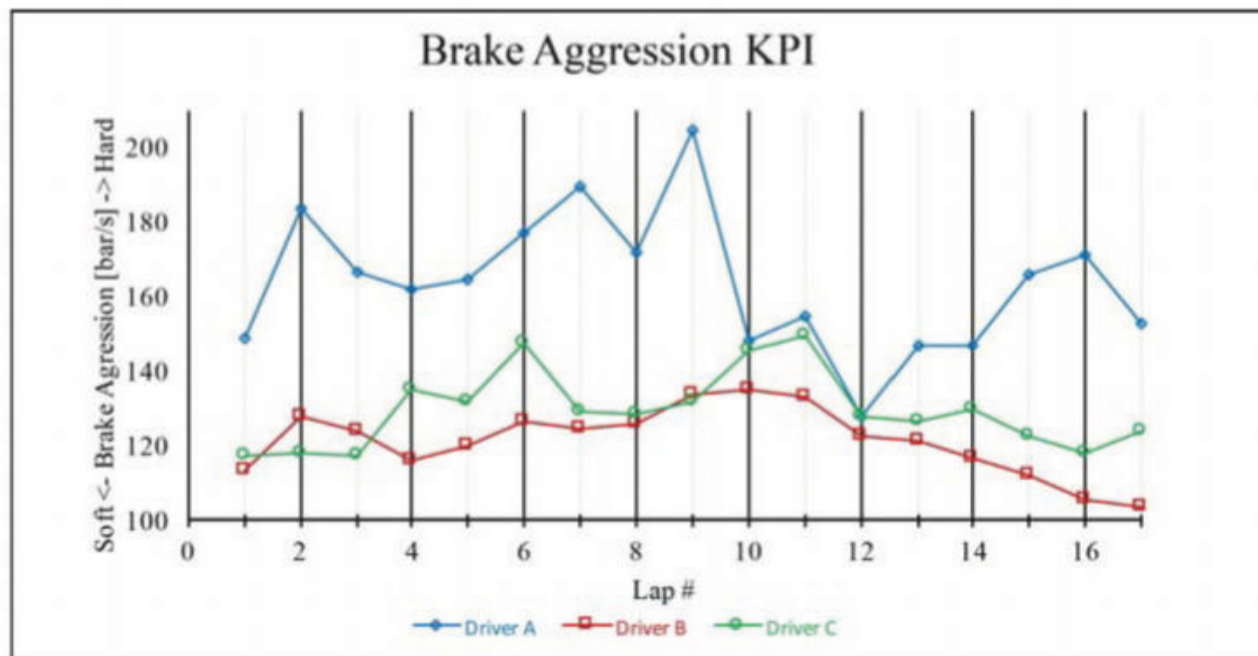

Figure 3: Braking aggression evolution during a stint. Driver A is the most aggressive of the three racers
**Figure 3** shows the braking aggression over a stint. Plotting the KPI over a stint or the duration of a race gives a good overview of what is actually happening and allows you to detect any variation/deviation from a nominal value rapidly. It also enables you to see the progression of the brake aggression during the stint. This can be very useful, to see the evolution over the weekend during practice, qualification, or during the whole race.